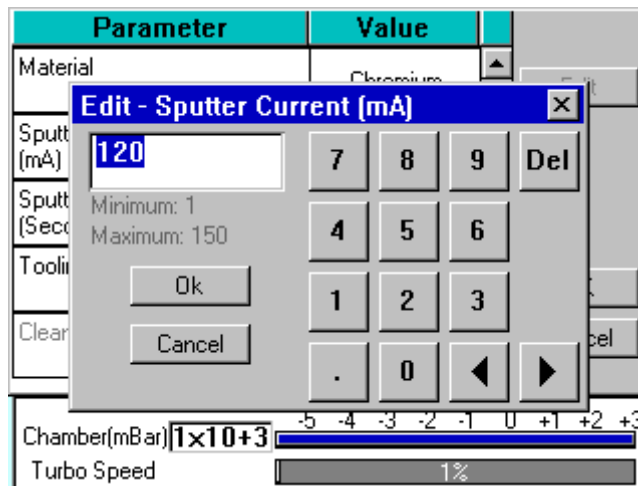

Figure 4-4. Editing Profile Parameters
To edit the profile currently selected on the standby screen, tap on the **Edit Profile** button. The editable parameters of the selected profile are displayed (see **Figure 4-4**).
3. Change the value as required (see **Figure 4-4**). The instrument displays a dialog box for editing purposes, with either a numeric keypad or keyboard as required. The dialog box also shows the allowed values for the parameter.